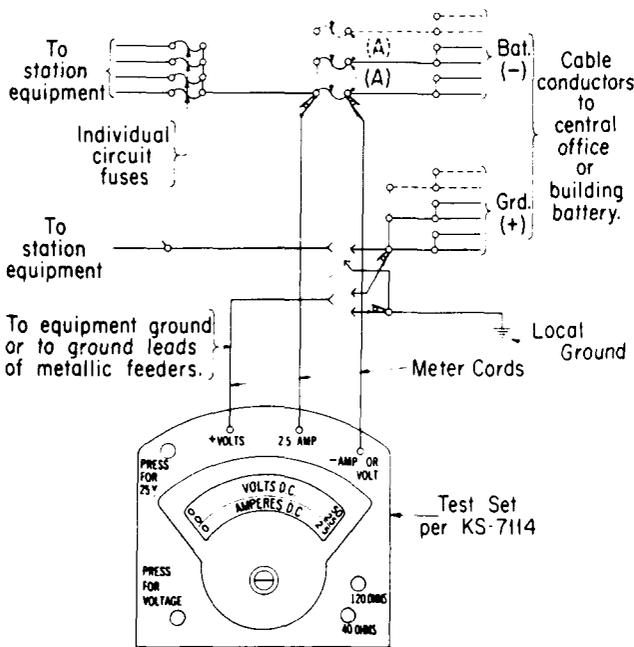

Fig. 3
3.17 During a period of no load or light load, connect the test set and place straps (A) as shown in Fig. 3. Short lengths of inside wire or W1U cords, or equivalent, may be used for straps. These connections provide for carrying the current supplied by all feeder groups through the meter, and for measuring all feeder groups as a unit.